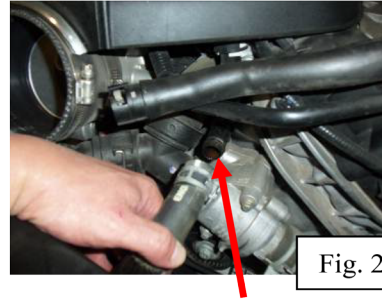

Fig. 26
- 24. Attach the lower reservoir coolant hose to the engine block (Fig. 26).